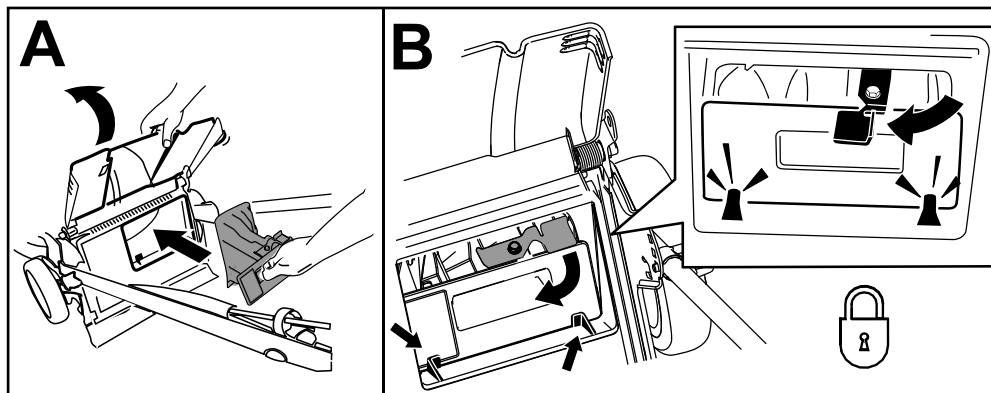

Figure 16
**Important:** Ensure that the rear plug is locked in place. To lock the plug, raise the rear deflector (A of Figure 16), firmly push the plug in until it snaps into place behind the tabs, and rotate the lever on the plug to the left (B of Figure 16).